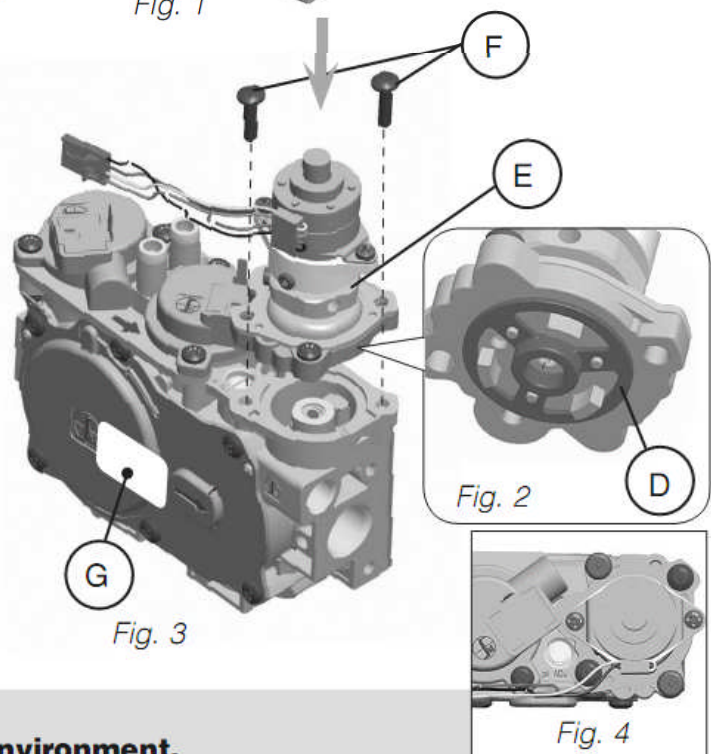
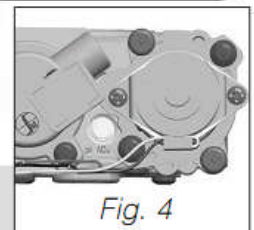
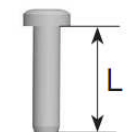

Fig. 3
Fig. 4
Fig. 5
- 4** Install the new STEPPER MOTOR pressure regulator assembly, as shown in Fig. 3 and Fig. 4. Use the supplied screws (F), M4 x 0.7 threaded, length of thread $L=(16\text{ mm} + 0 - 0.5\text{ mm})$, steel material, resistance class 8.8 (see Fig. 5).
The main burner shuts off when the appliance is warm.	<ol style="list-style-type: none"> 1. This may be the normal operation of a wall thermostat installed to appliances. 2. Check for good pilot flames on the flame sensor (see fig.3 page 9). 3. Check for proper functioning of venting system (including termination for blockage). 4. Check wire connections. Expansion from heat affects a loose connection 5. Check for adequate grounding from the Module (page 24)